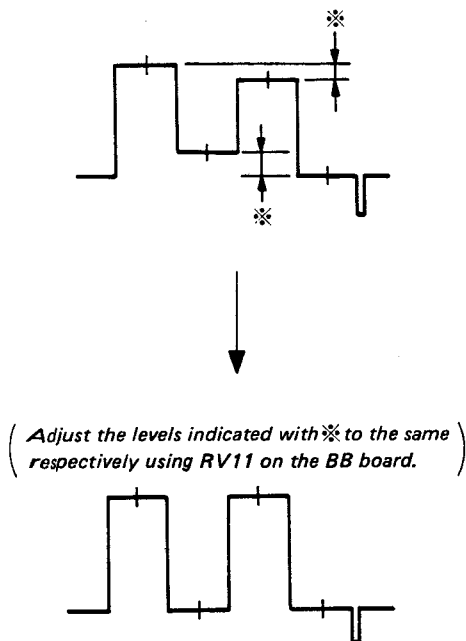

Fig. 5-115.
4. Connect the oscilloscope probe to TP1 on the BC board, and adjust RV11 on the BB board to obtain the correct R-Y waveform as shown in Fig. 5-115.